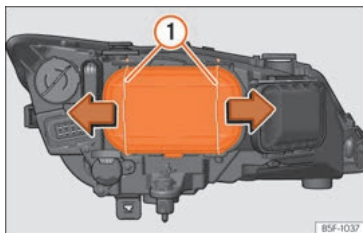

Fig. 106 Dipped beam headlights.
- Move the loops » **Fig. 106 ①** in the direction of the arrow and remove the cover.